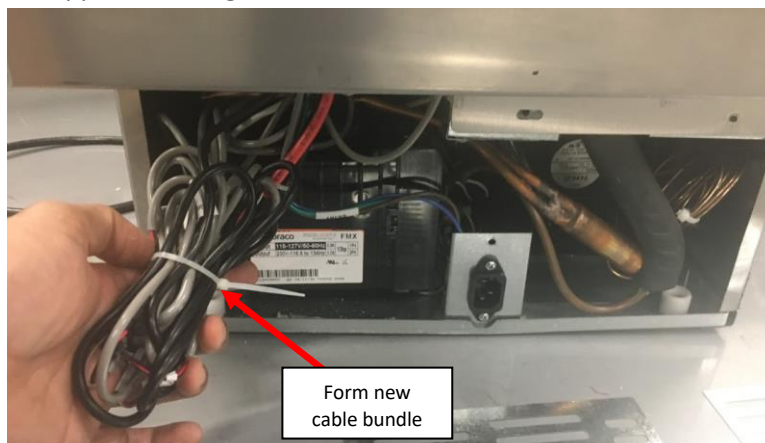

Figure 123: Wire Bundle formed.
- iv. Roll the replacement UI Harness in a bundle with all the other loose wires and secure it in a bundle with the Cable Tie supplied. See Figure 123.